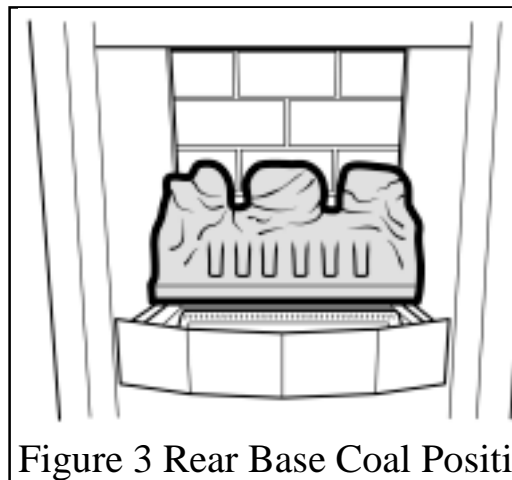

Figure 3 Rear Base Coal Position
2. Place the rear base coal in the firebox. It should rest on the ledges at the sides and back of the firebox and its rear face should touch the rear ceramic wall. See figure 3.